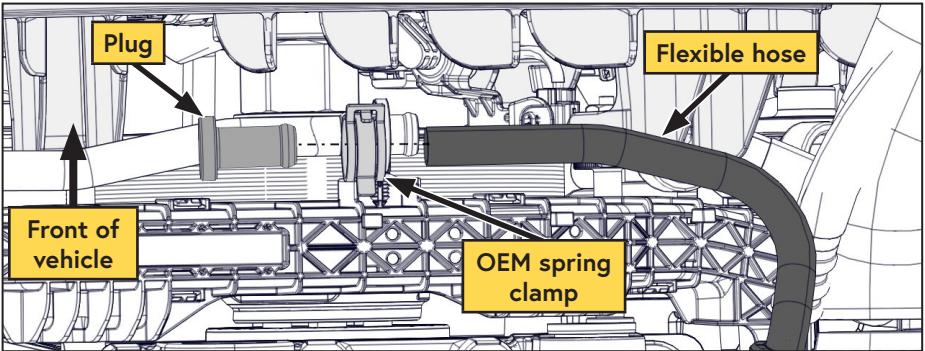

Figure 35 — Plug the flexible hose
- Insert the supplied aluminum plug into the flexible hose section and secure using the OEM spring clamp (Figure 35).